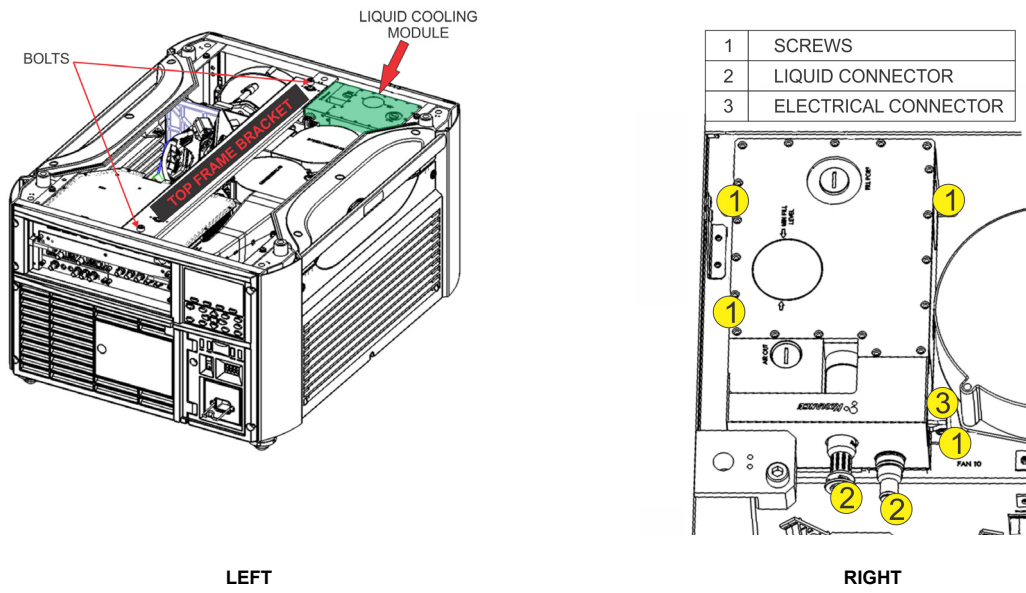

FIGURE 4-8
1. Using a 6mm hex driver or Allen key, remove the 2 bolts securing the top frame bracket. Refer to Figure 4-8. (LEFT)
4. Using a 3mm hex driver or Allen key, remove the 4 screws securing the liquid coolant module to the projector. Refer to Figure 4-8. (RIGHT)